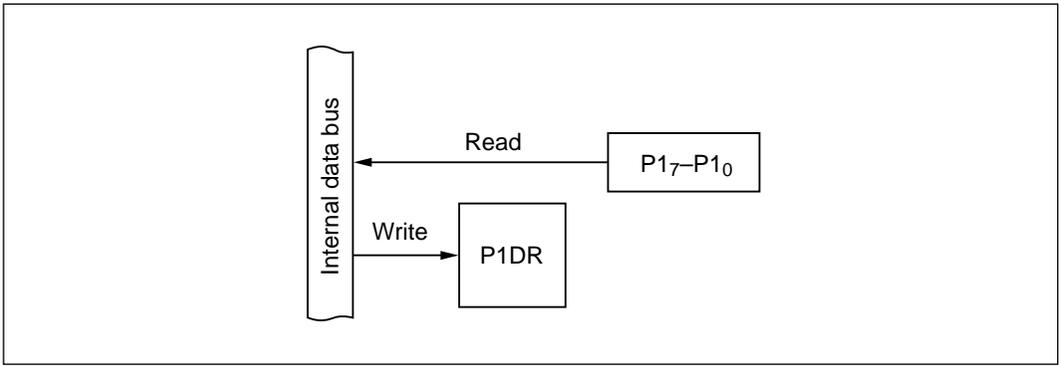

Figure 10-6 Input Port (Mode 7)
(2) **Input Port (Mode 7):** Figure 10-6 shows a block diagram illustrating the general-purpose input function. Table 10-5 indicates register read/write data. Values written in the port 1 data register (P1DR) have no effect on general-purpose input lines. When read, P1DR returns the value at the pin.